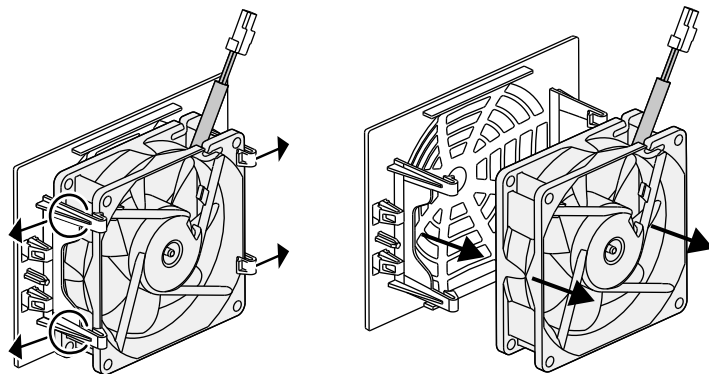

Fig. 55: Disassembly of the fan grill
5. The fan can also be pulled off the fan grill. To do this, press the fastening straps slightly outward and pull off the fan.  **Fig. 55**